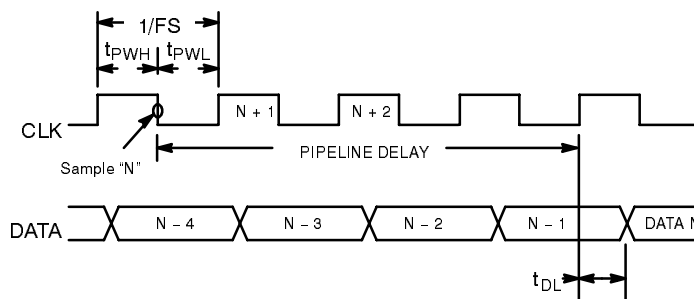

Figure 6. Data Available Timing
Clock Timing (See Figure 6.) ⁷
A full conversion (sampling V_{IN} , converting MSB & LSB, and performing any error correction) requires four clock cycles to complete (see Figure 6.) The pipelined architecture allows the chip to maintain a one conversion per cycle sample rate. Digital logic combines the MSB and LSB data and performs error correction to produce 8-bit output codes.
For systems that are battery powered, the MP8786 has a power down feature to help extend battery life. When the voltage at the V_{RT} pin drops below 0.4 V, the chip goes into power down mode. In this state, conversions are halted, the outputs are 3-stated and I_{DD} drops to less than 100 μA . Then, when the voltage at the V_{RT} pin rises above 0.9 V, the chip will power up. Note that after power up, four clock cycles are required to get valid data at the digital outputs (see Figure 6.) One way to achieve power down is to disconnect or disable the buffer/amp driving V_{RT} , and let the internal reference resistance pull V_{RT} down. Remember, any bypass capacitors at V_{RT} will increase the time for V_{RT} to drop below 0.4 V.
2. It is important to note that op amps have inductive output impedances at high frequencies which is a consequence of the emitter impedance of the typical push-pull output stage. The resulting transient ringing should be damped by inserting a resistor in series with the ADC input – typically about 50Ω . See Figure 6. The exact value may be obtained from the op amp manufacturer's data sheet.
Refer to Figure 6. for details on the data availability timing. The digital outputs should not drive long wires or buses. The capacitive coupling and reflections will contribute noise to the conversion. The output enable pin ($\overline{OE}$) should not be left unconnected. If it is not controlled by an active signal, it must be tied to ground.